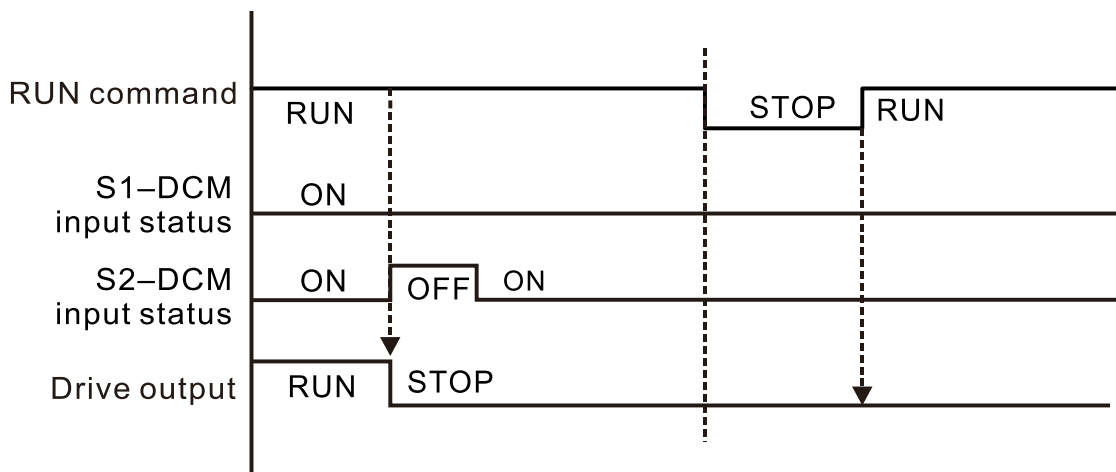

Fig.17-9
As shown in Fig. 17-9, when S1-DCM is ON during operation (STO function is not required) and S2-DCM is OFF (STO function is required), the drive stops outputting, and the keypad shows the STL2 error. However, you cannot reset the STL2 error even if the S2 status is restored (ON) regardless of the parameter setting. You must cycle the power to reset and to restore the drive to the normal standby state.